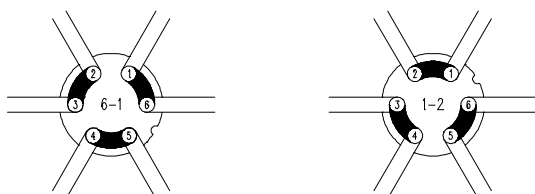

Figure 5.2 ISS valve; interconnected ports
- <VALVES>** to program positions of high pressure valves (ISS, injector valve, SSV). The injector valve has two positions: <INJECT> and <LOAD>. The ISS optional valve has positions 1-6 and 1-2 (see figure 5.2).